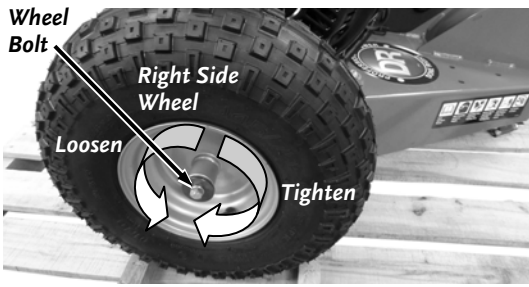

Figure 4
1. Loosen the Bolt that secures the right side wheel a couple of turns using a 1/2" Wrench (**Figure 4**).
3. Remove the Bolt, Lock Washer, large Flat Washer and right side Wheel (with two Bushings) from the Axle (**Figure 4**). Take note of how the Bushings are installed in the Wheels for reassembly.